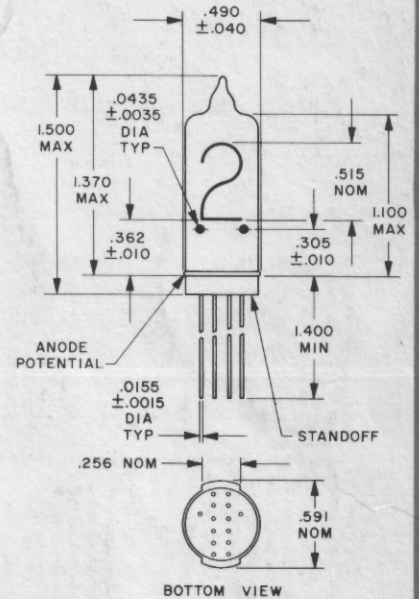

Figure 1. OUTLINE DRAWING
| Outline Drawing       | Figure 1                                  |
4. As noted on the tube outline drawing (Figure 1) an external portion of the tube is at the anode potential. CAUTION should be exercised.